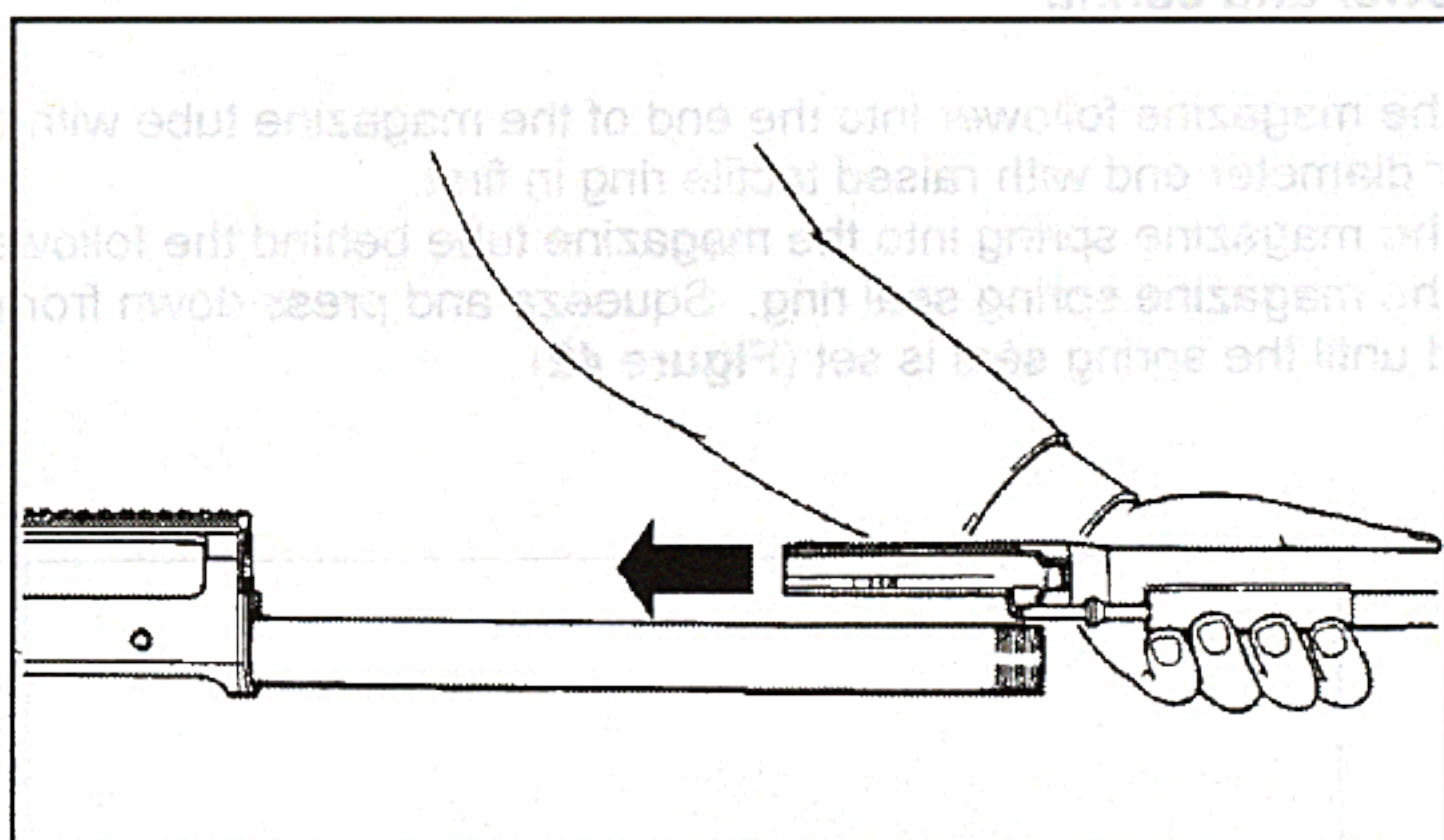

**Figure 42.** Installation of magazine spring seal ring
- C. Insert the magazine spring seal ring. Squeeze and press down from the top and rotating forward until the spring seal is set (**Figure 42**).